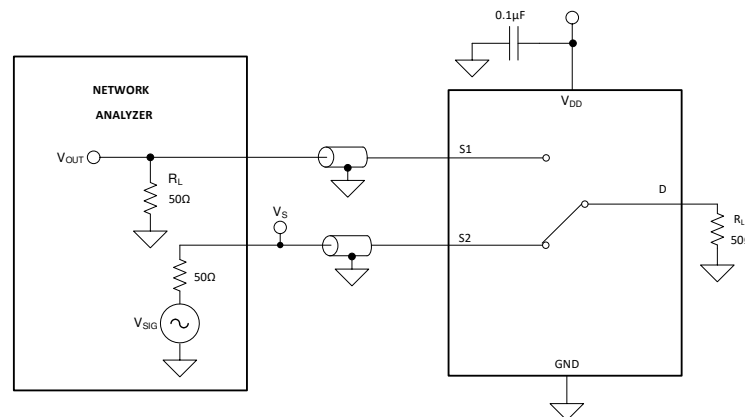

图 7-8. Crosstalk Measurement Setup
Crosstalk is defined as the ratio of the signal at the drain pin (D) of a different channel, when a signal is applied at the source pin (Sx) of an on-channel. 图 7-8 shows the setup used to measure, and the equation used to calculate crosstalk.